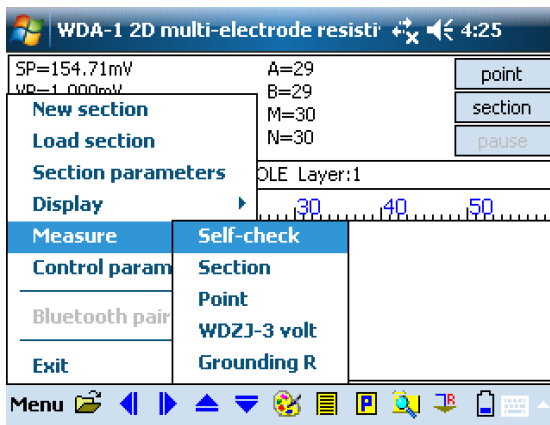
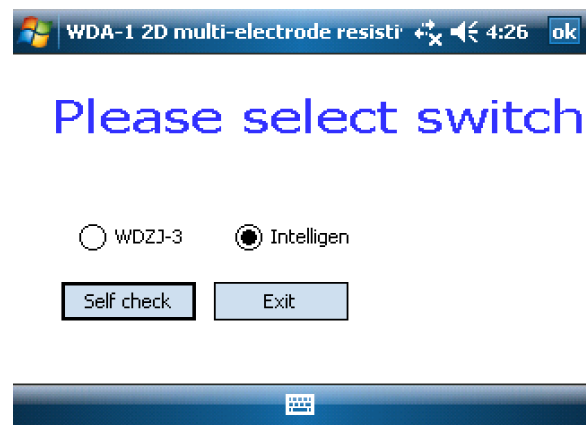

Fig.A-2
Fig.A-3
- ① Plug the self-checker cable into the “Connect self-check electrode cable” socket (on the left bottom of the front panel) of PDZ-1 switch self-checker.
- ② Plug the intelligent resistivity/IP cable into the “Connect switch box cable” socket (on the right bottom of the front panel) of PDZ -1.
- ③ Have the 10 clamps (on the self-checker electrode cable) clamp each stainless connector on the intelligent cable take-out. What should be noted is that clamps should not be short-circuited and so are the stainless connectors on each intelligent cable.
- ④ Connect the “Connect adapter cable” socket (on the front panel of the PDZ-1) and the “Cable socket 1” (on the WDA-1/WDA-1A mainframe) with the special cable.
- ① Turn on the WDA-1/WDA-1A mainframe.
- ② Turn on the PDA, under “WDA-2DR” program, click “Menu”→ “Measurement”→“Self-check” (Fig.A-2), and system enters into self-check interface (Fig.A-3). Choose “Intelligent” option.